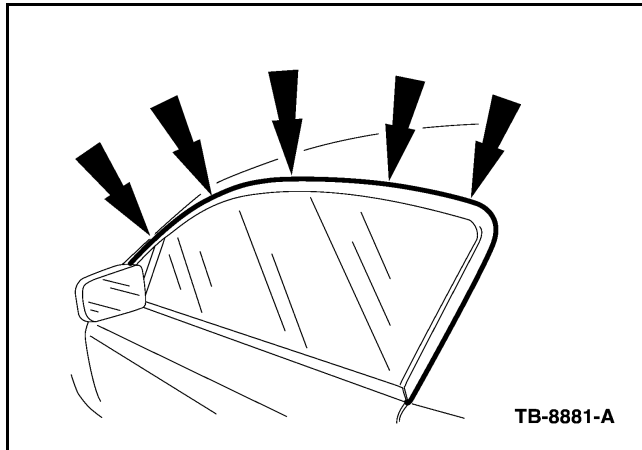

Figure 5 - Article 07-14-6
- b. Reassemble other trim as required. (Figure 5)